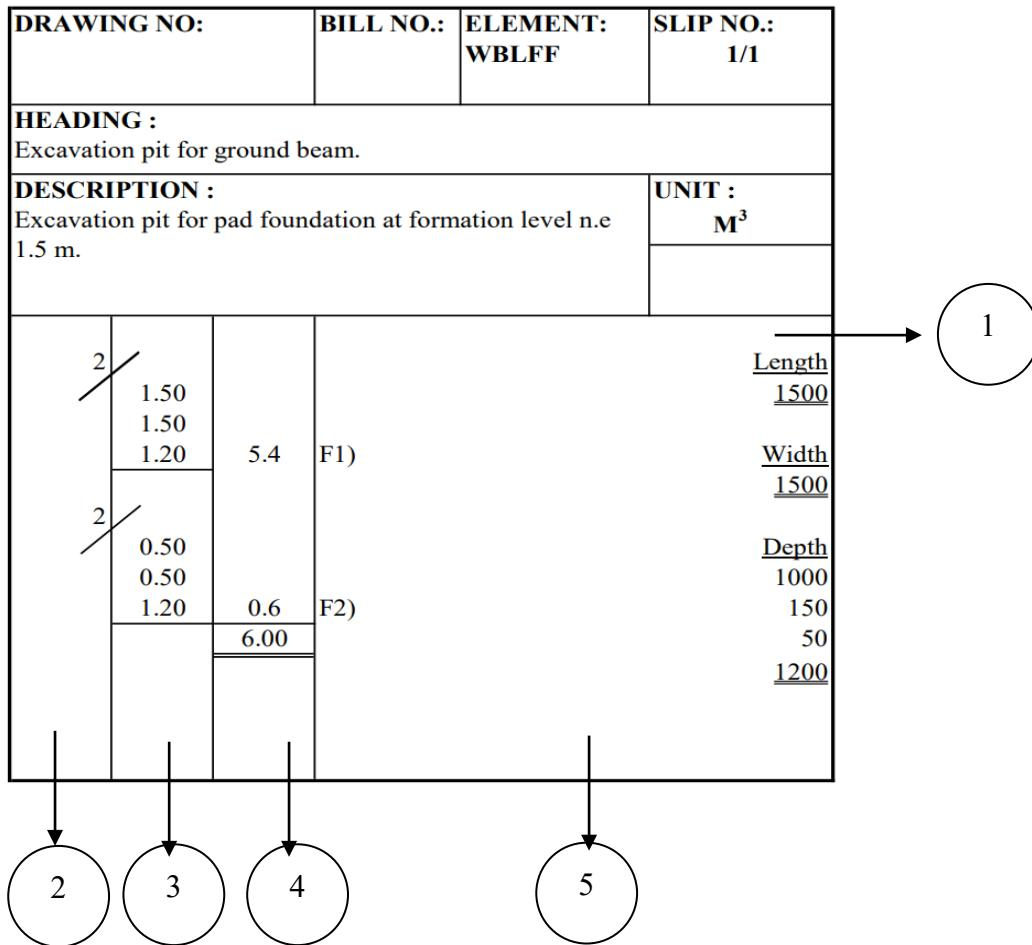

Figure B4(a) / Rajah B4(a)
- (a) Every part of taking off form has their own function. Identify the function of each section labeled as no 1 – 5 in Figure B4(a) below.
- (b) Based on Figure B4(b), calculate the taking off quantity for: